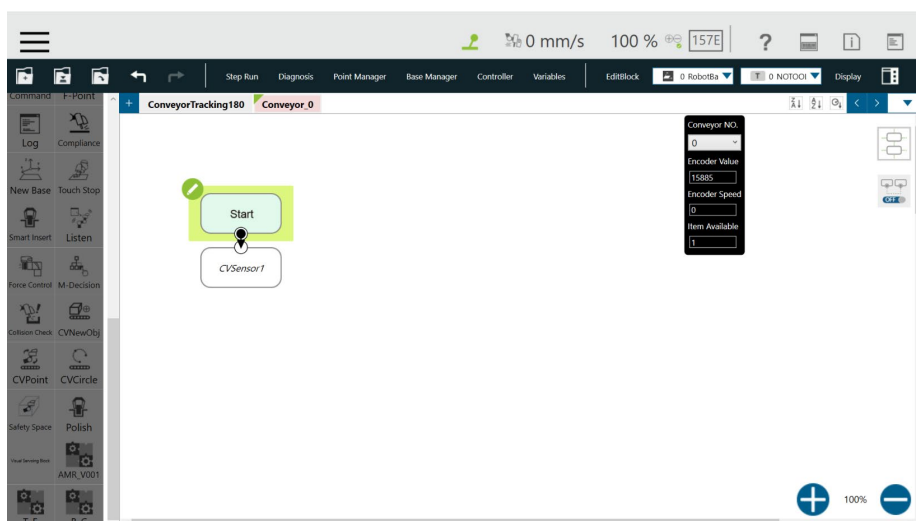

Figure 18 Start the project
- Another is the sub-thread, which is Conveyor_0 in **Figure 18**. This thread is configuration-only and cannot add any node.